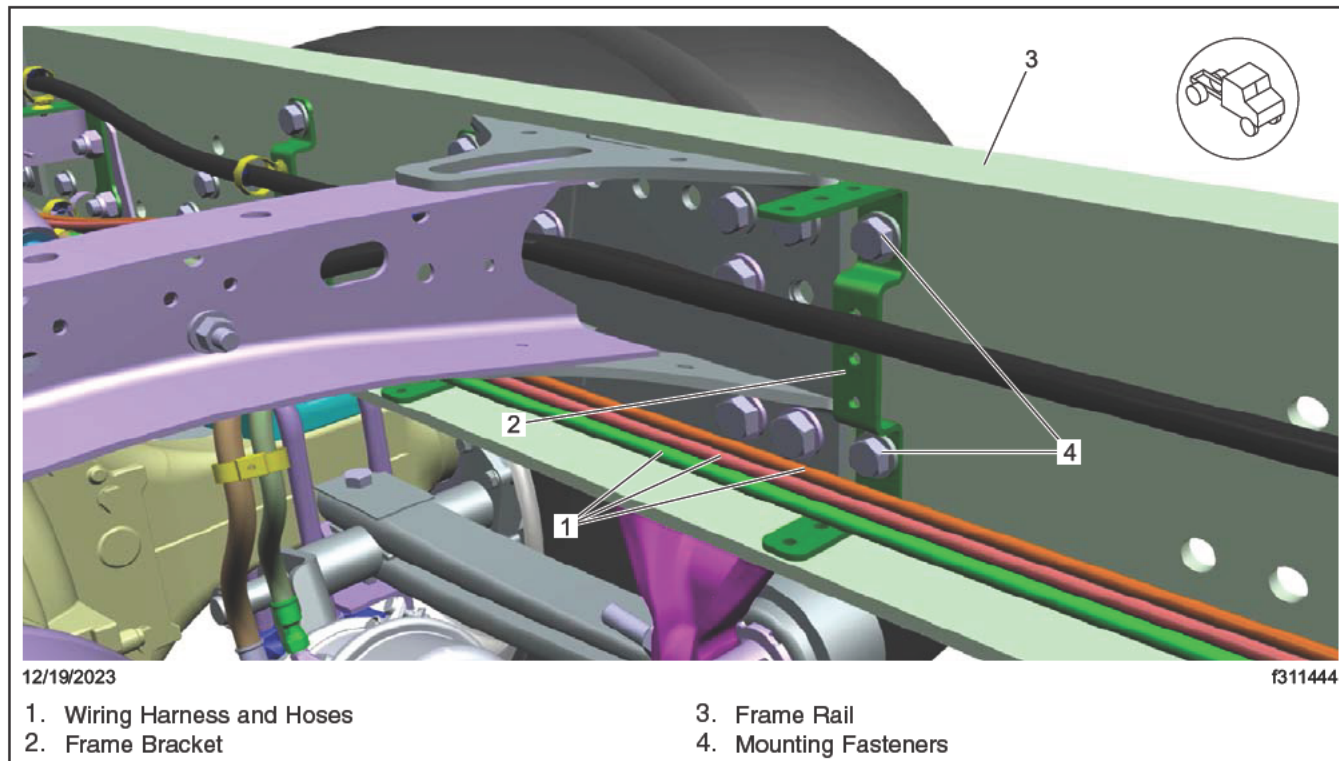
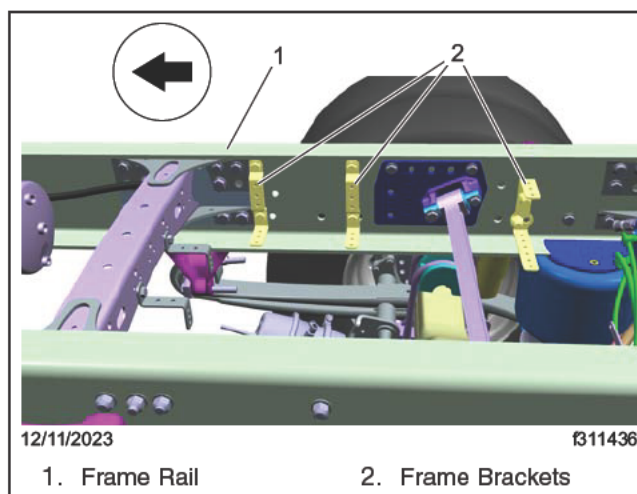

Fig. 21, Left-Hand Side Frame Brackets
Fig. 22, Right-Hand Side Frame Brackets
11. Drill three additional holes on the L-bracket before installing the crossmember using a mag drill. These holes are for the frame brackets in Fig. 21 and Fig. 22.